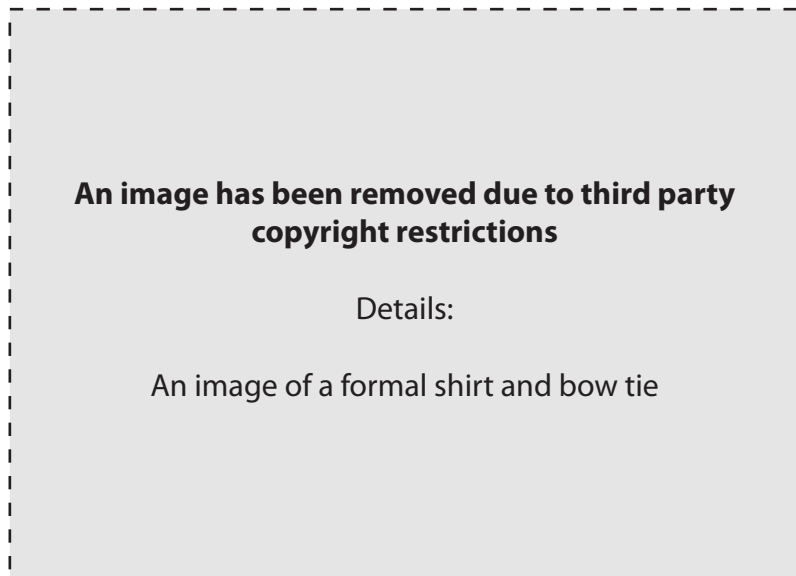

Fig. 6
- (b) Fig. 6 shows a formal shirt.